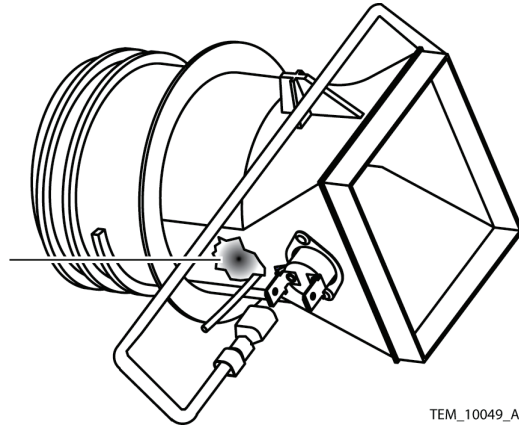

Figure 55. Thermistor Silicone
2. Remove the silicone RTV from the thermistor connection on the duct adapter assembly. See Figure 55, item 1.
13. Apply a small amount of silicone RTV to the thermistor rivet cap and the adapter housing. See Figure 55.